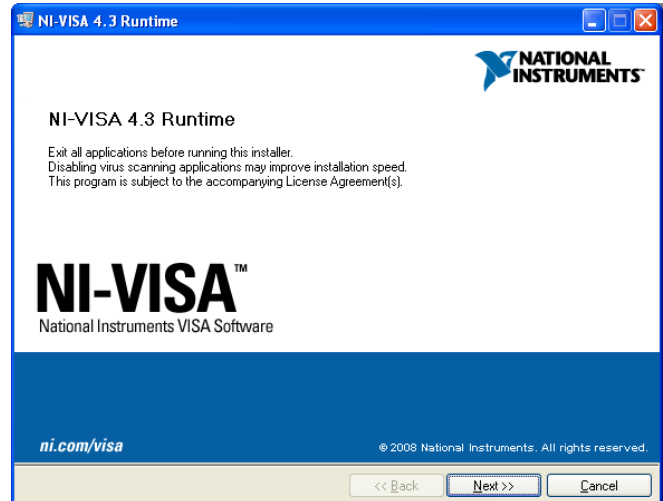

FIGURE 4. NATIONAL INSTRUMENTS RUNTIME ENGINE INSTALLATION WIZARD
3. In the **ISL9519 CONTROL Installation Wizard** window, click through the steps of the wizard to install the ISL9519 software. For most PCs, this installation also automatically downloads the National Instruments Runtime Engine installation wizard. If so, the **NI\_VISA 4.3 Runtime** installation window opens (Figure 4).